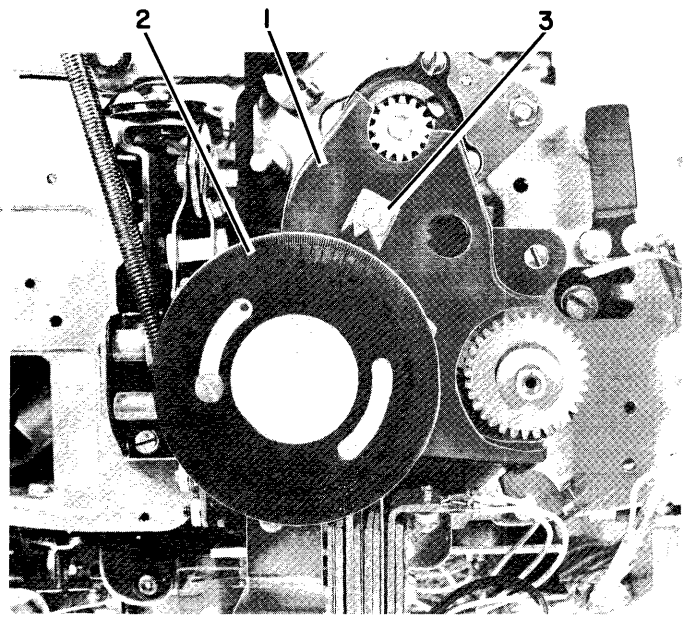

Figure 6. Belt Replacement
2. Remove the degree-wheel pointer (#3, Figure 6).
3. Remove the degree-wheel (#2, Figure 6).
4. Remove the gear guard (#1, Figure 6).